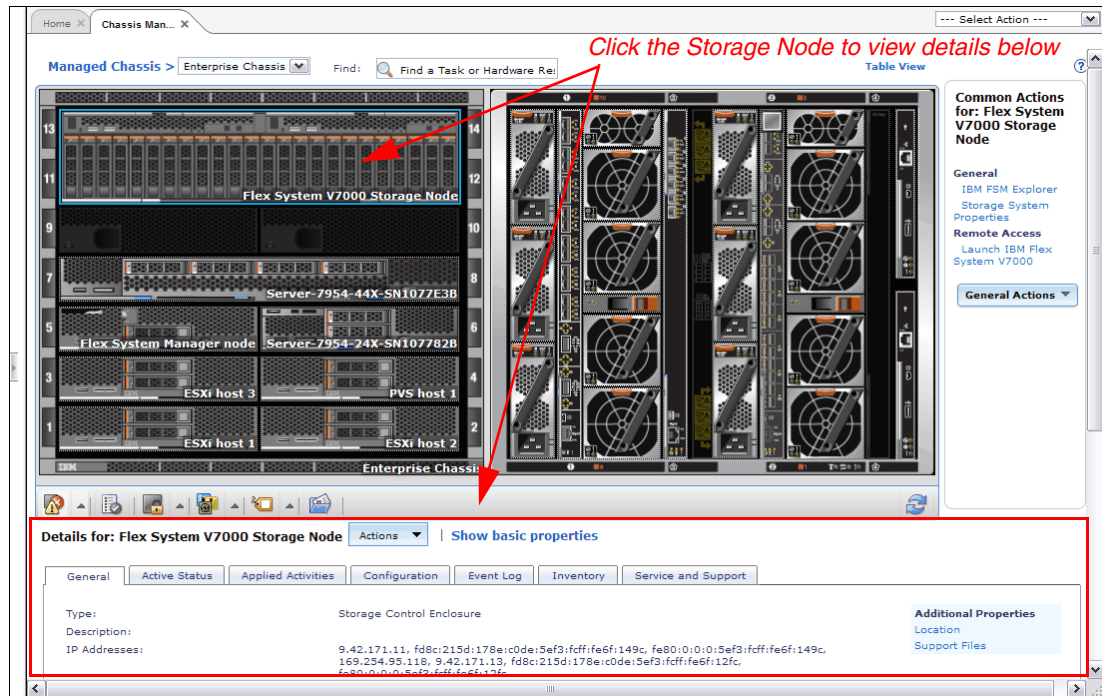

Figure 13-9 Details of the selected storage node
3. From the Chassis Map, click the IBM Flex System V7000 Storage Node to select it. Figure 13-9 shows the details of the storage node as displayed.